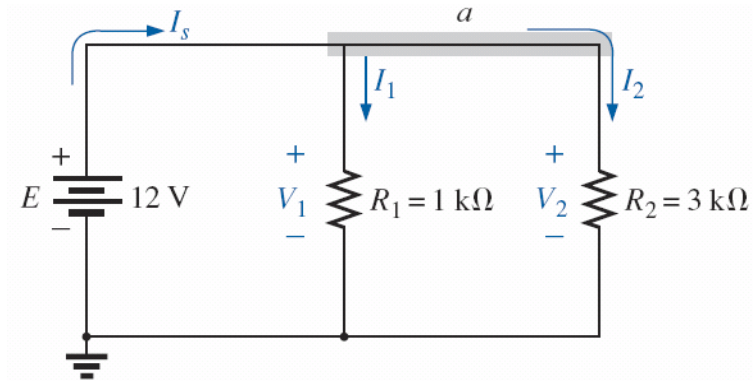

FIG. 6.18 Parallel network.
- ❖ A **parallel circuit** can now be established by connecting a supply across a set of parallel resistors as shown in Fig. 6.18.